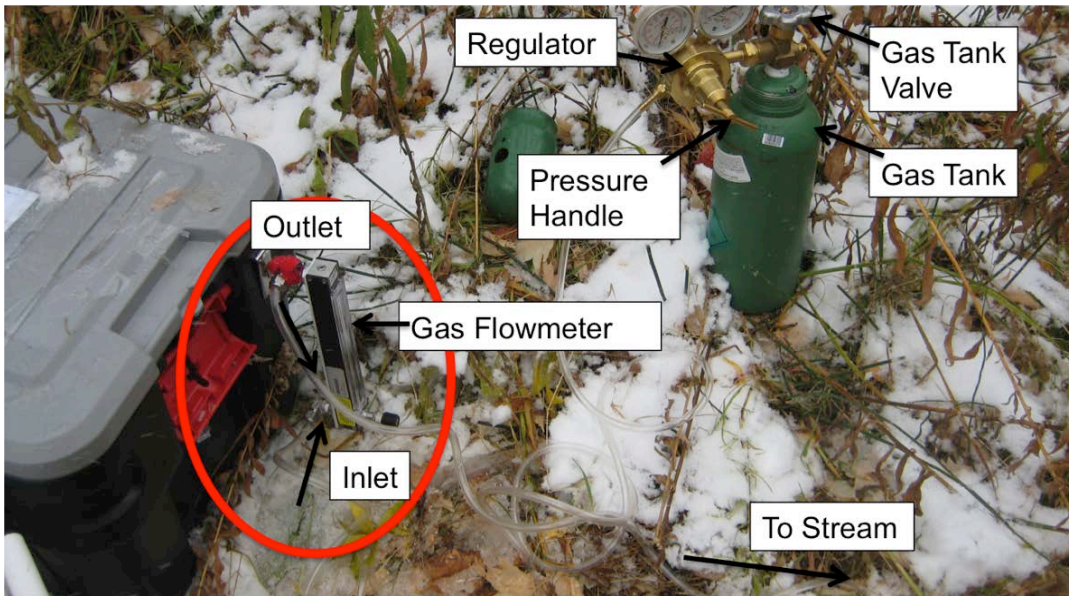

Figure 6. Gas tank, regulator, and flowmeter field setup
- i) At the injection site, set-up the SF₆ gas tank, regulator and flow meter (Figure 6).
- (1) Attach the regulator to the gas tank using the appropriate size wrench (1-1/8 inch wrench).
- (2) Use gas-impermeable (e.g., Tygon) tubing to connect the SF₆ gas tank and regulator to the gas flow meter. Make sure that the tube running from the gas tank is connected to the BOTTOM connector of the flowmeter.